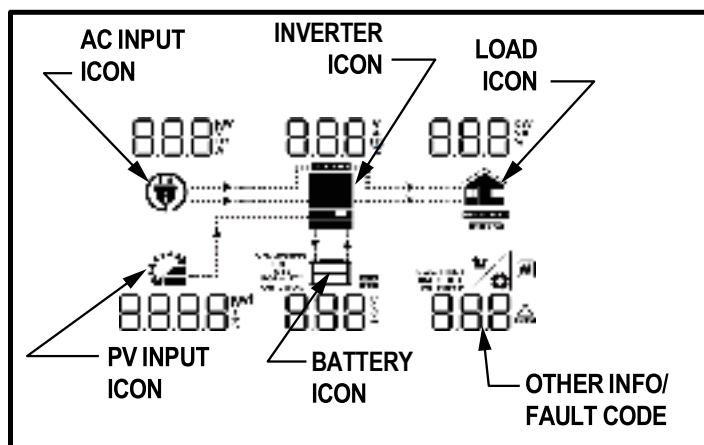

Figure 1-19
1. LCD screen (See *Figure 1-19*)
5. Function/Navigation buttons (4)